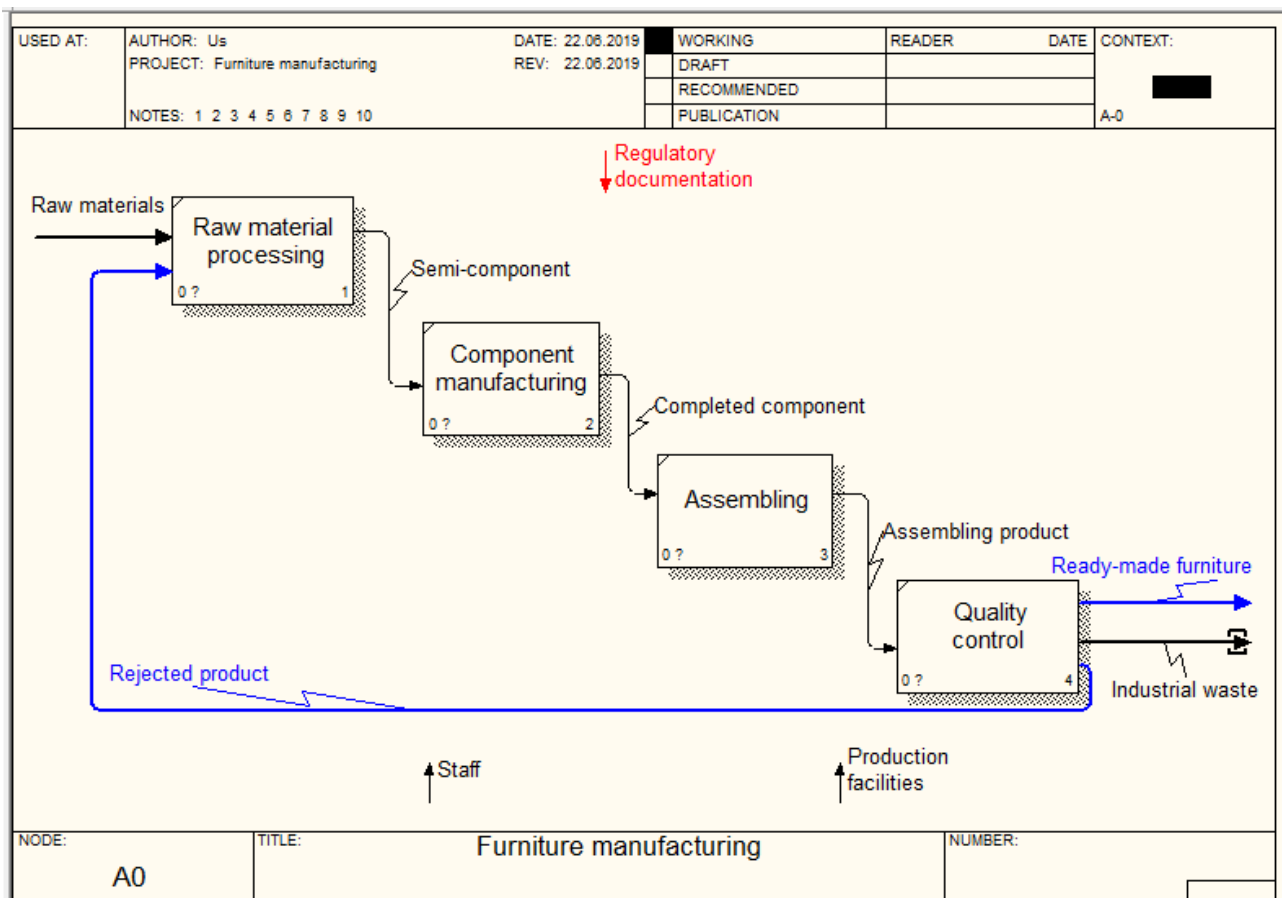

Fig. 2.5. The changing arrow direction
5. Name a new arrow REJECTED PRODUCT (fig. 2.5)